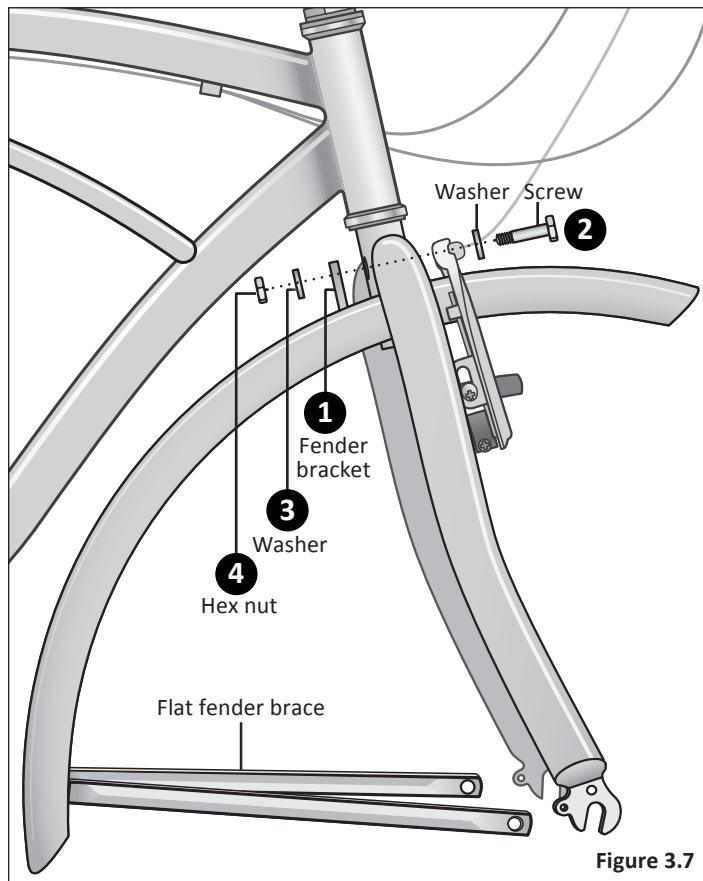

Figure 3.7
- ➊ Position the front fender so the fender bracket is on the inside of the frame. The fender is attached to the fork crown. Align the hole in the bracket to the hole in the fork crown. **Figure 3.7**